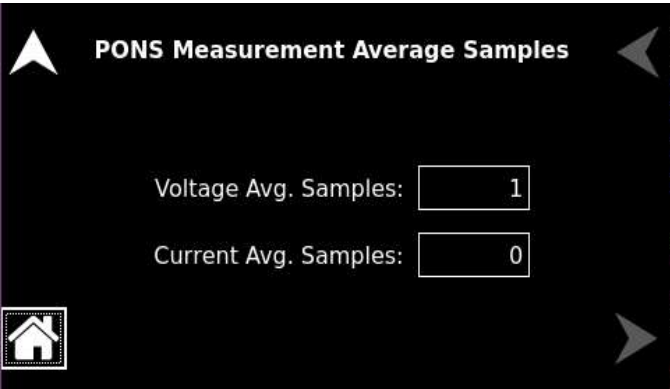

Figure 11-67. PONS Measurement Average Samples
**PONS Measurement Average Samples**      User can specify how many readings should be averaged together to minimize noise in the output. Refer to Figure 11-67.